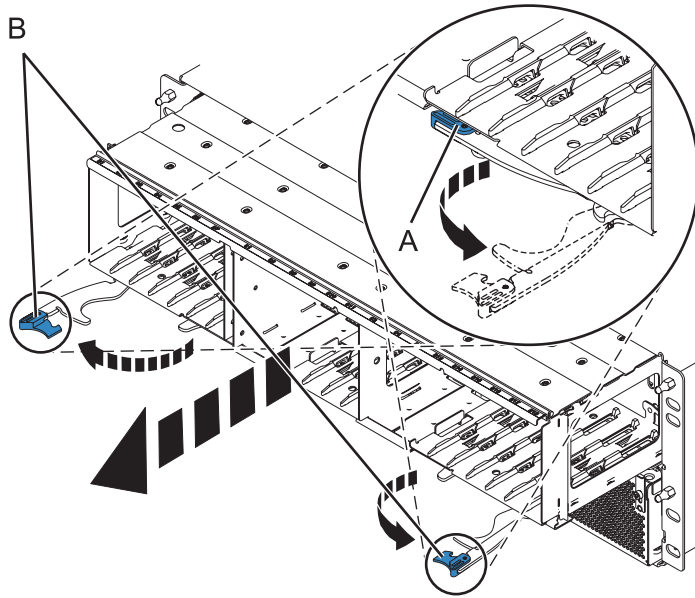

Figure 63. Removing the backplane from the enclosure
6. Remove the backplane as shown in Figure 63 on page 80.